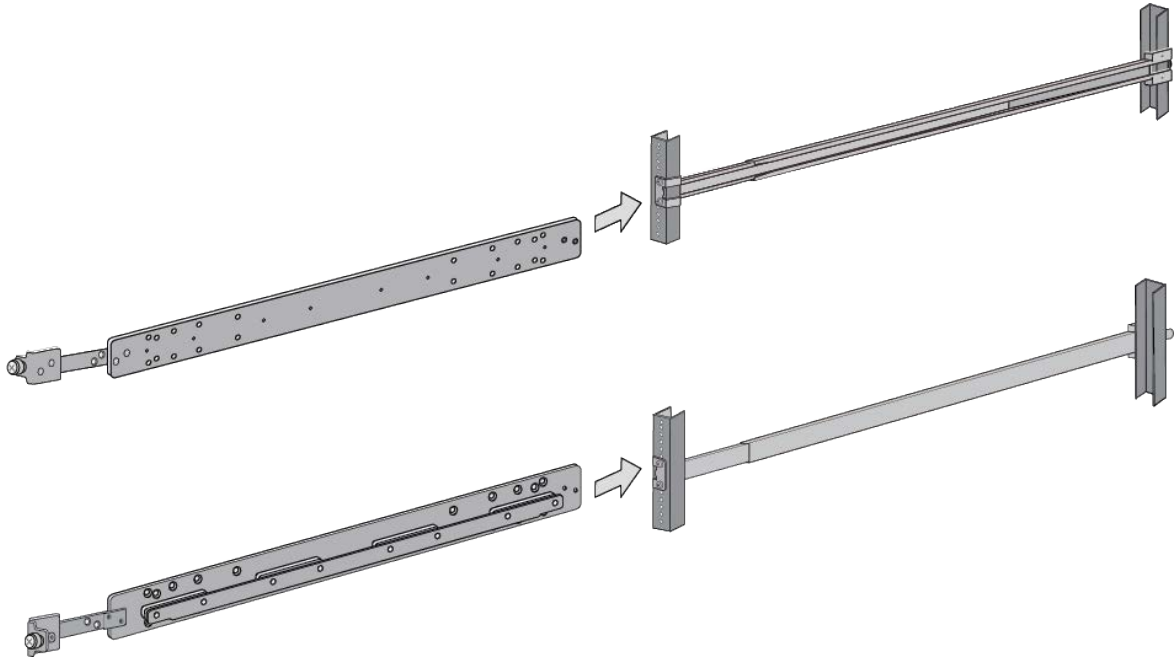

Figure 116. Testing the Inner Rails with the Extension Brackets
4. To test the lengths of the extension brackets, slide the inner rails into the outer rails in the equipment rack. Refer to Figure 116.